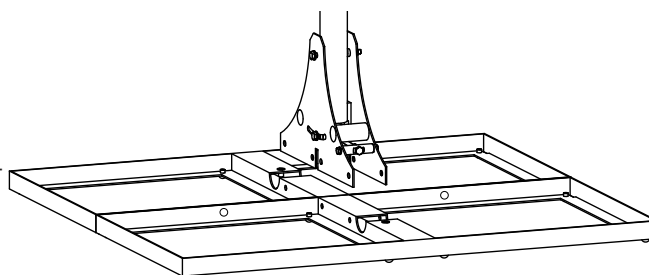

Fig. 2: Aligning the frames
1. Arrange the frames in parallel so that the openings in the separating walls are next to each other (Fig. 2).